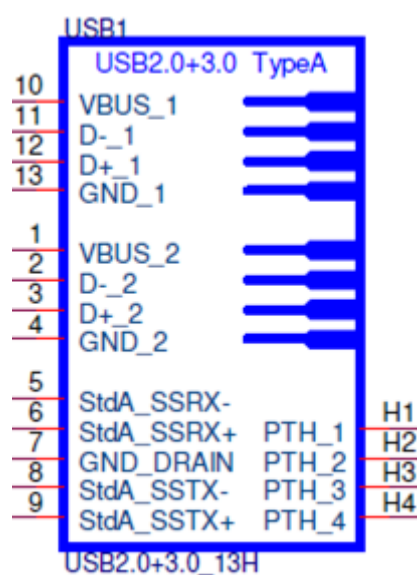

Figure 2.23 USB 1 (USB 3.2 Gen 1 on TOP + USB 2.0 on BOT)
2. RSB-3720 can communicate with a host server using serial cables. Common serial communication programs such as HyperTerminal, Tera Term or PuTTY can be used in such applications. The example demonstrated below describes the serial terminal setup using Tera Term on a Windows host: Open Tera Term on your Windows PC, and select the settings as shown in Figure 2.23.